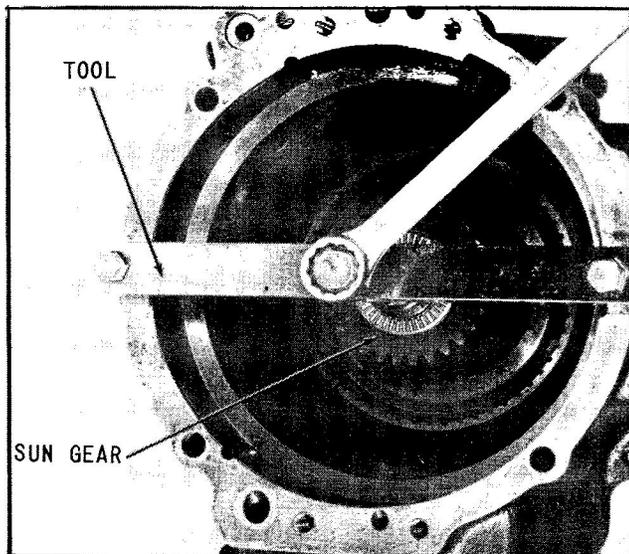

Fig. 24 Press Against Sun Gear Shaft
1. Use an arbor press or a tool similar to the tool shown in (Fig. 24) to press against the end of sun gear and output shaft, while completing steps 2 through 5 inclusive.
11. Remove clutch piston, spring and sealing rings from clutch piston and output shaft, Fig. 24.
2. Use an arbor press or a tool similar to tool shown in (Fig. 24), to press